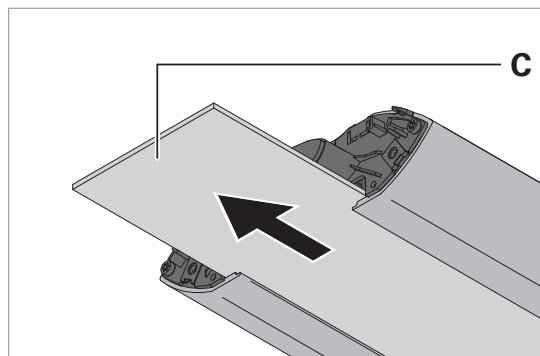

Fig. 17: Pulling out the cover.
- ▶ Pull the prism cover **C** or the parabolic grid out of the luminaire, see Fig. 17.